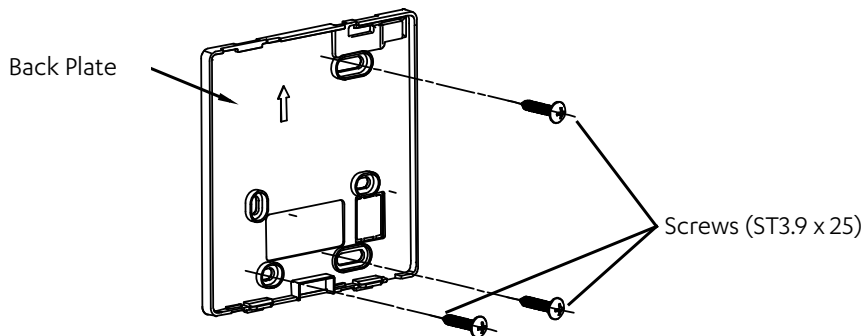

Fig. 3-3
- For exposed mounting, fasten the back plate on the wall with the 3 screws (ST3.9 x 25) and plugs. (Fig. 3-3)